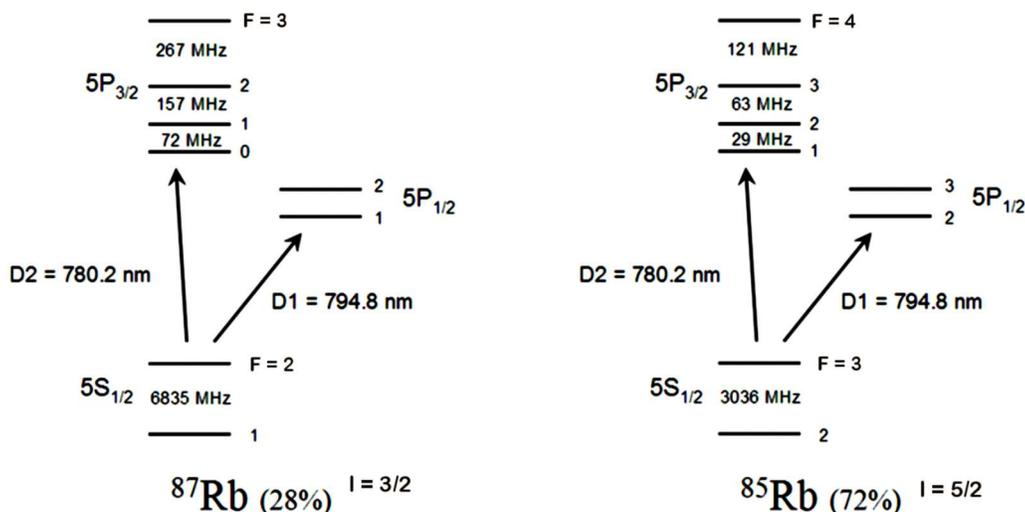

Figure 3. A more detailed rubidium level diagrams, showing the hyperfine splittings of the ground and excited states.
Because our goal in this lab is not to teach you all the many intricacies of atomic energy levels, we will end our brief discussion of the topic here. Instead we will turn our attention to how one might use laser spectroscopy to measure the numbers shown in Figure 3. Gaining experience with some of these tools may be beneficial if you end up going into any area of AMO (atomic/molecular/optical) physics, which is a diverse and exciting branch of modern physics research. In addition, tunable lasers are commonly used in many laboratories for many purposes, so you may find it worthwhile to gain some experience with laser optics and related opto-electronic devices.
**Exercise 3.** With the same absorption signal on the 'scope, save the numbers to a .csv file as well. Using your own computer, save this data and plot the absorption spectrum. Use the known Rb hyperfine splittings in Figure 3 to calibrate the frequency axis, so you can plot the absorption signal as a function of the  $\Delta f$ , the change in laser frequency. If all went well, you should get a plot that looks something like Figure 8.